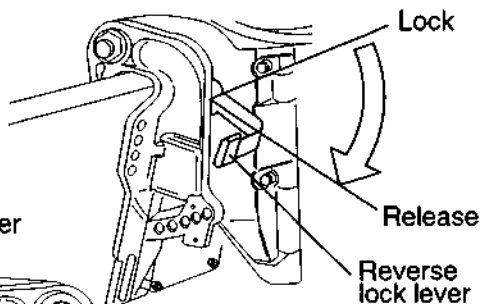

Fig. 1
- ① Disconnect the fuel connector.
- ② Set the reverse lock lever on the port side to "RELEASE" by turning it downward. (Fig. 1)